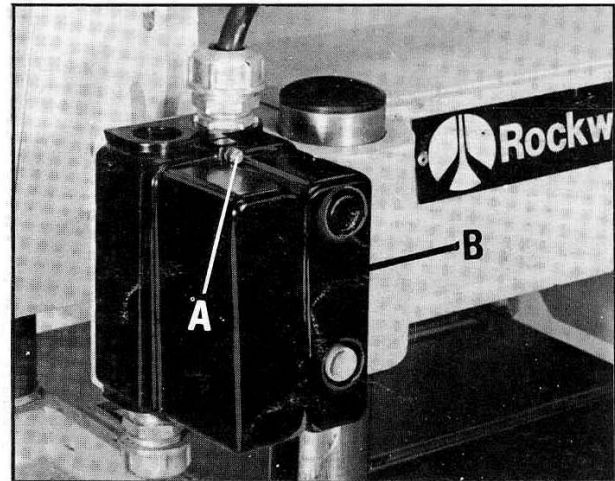

Fig. 27
1. Remove two screws, one of which is shown at (A) Fig. 27, and remove switch cover (B).